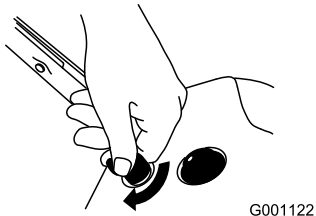

Figure 14
- Turn the ignition key clockwise to the On position (Figure 14).